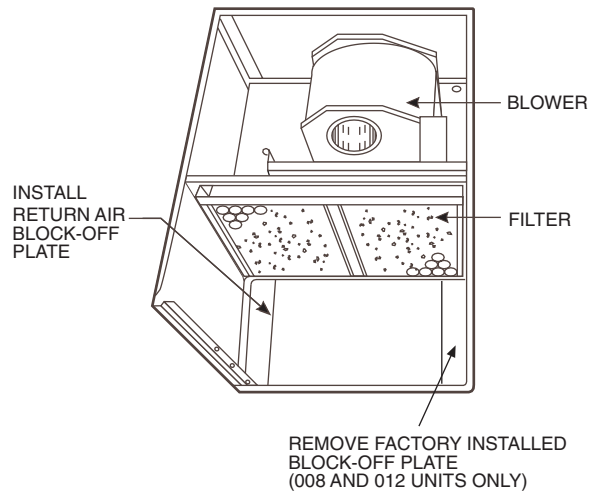

Fig. 33 — Return Air Block-Off Plate Installation (48TF014 Units Only)
6. For 48TF014 units, install the return air block-off plate over the return air duct opening. See Fig. 33.
NOTE: For 48TF008 and 012 units, remove the factory-installed block-off plate. See Fig. 33.